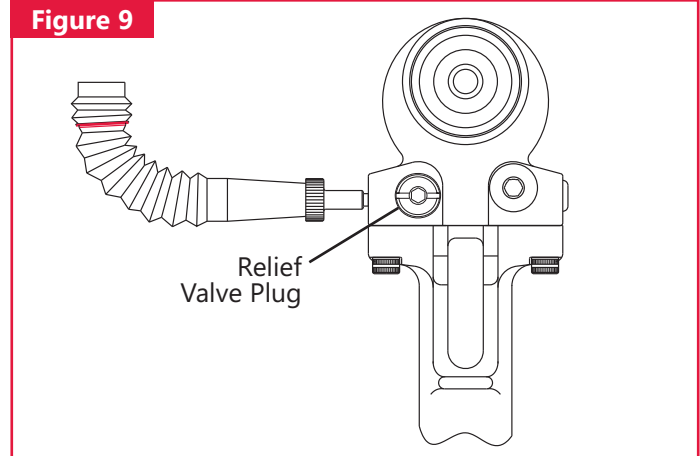

Figure 9
- Install the O-ring and Back-up ring on the relief valve plug. (Figure 9) Insert the ball, guide, sleeve, spring, and plug into the head.